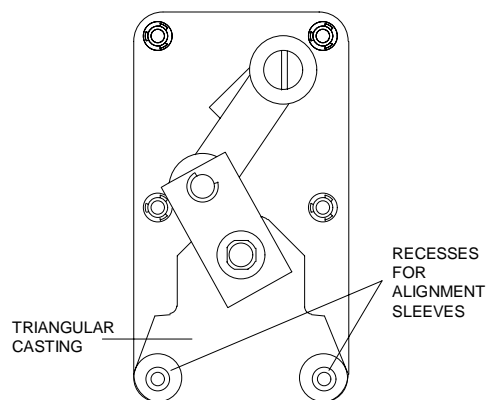

Figure 20: Triangular casting in place with crank assembly pivoted to left
4. Position the triangular casting over its mounting holes, making sure that the crank assembly is pivoted to the left. **(Figure 20)** Put the alignment sleeves in their recesses in the triangular casting.